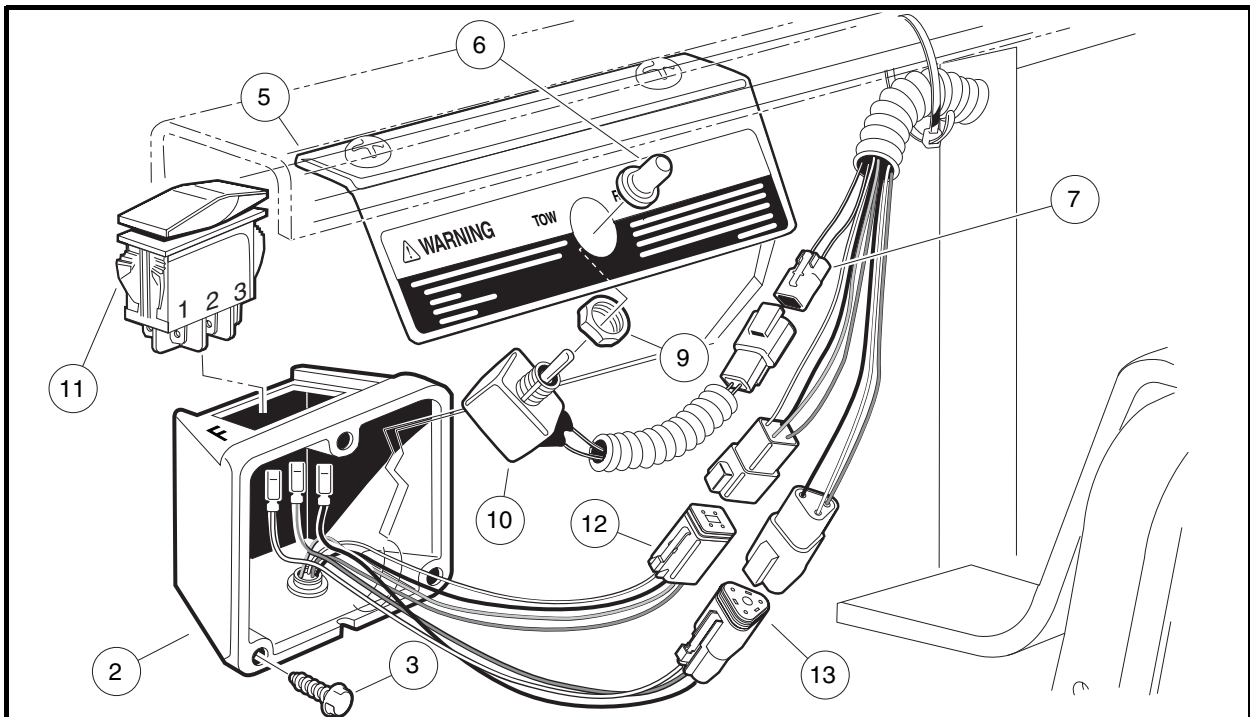
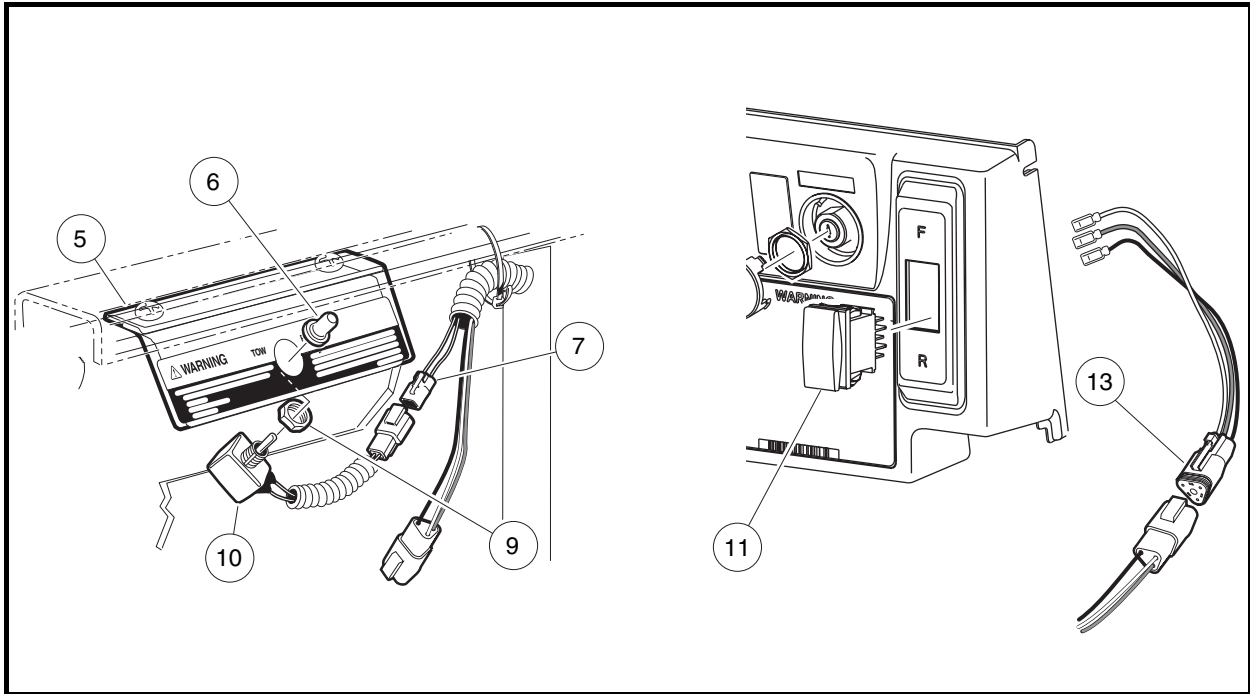

Figure 23-5 Tow/Run Switch and Forward/Reverse Rocker Switch – 800 and 810
Figure 23-6 Tow/Run Switch and Forward/Reverse Rocker Switch – 850
2. Remove three screws (3) that hold Forward/Reverse rocker switch housing (2) to body (**Figure 23-5, Page 23-5**).
4. Press the locking tabs (11) on each end of switch and push switch out of housing.
1. Press the locking tabs (11) on each end of the rocker switch and push switch into housing (2) (**Figure 23-5, Page 23-5**).
3. Install three screws (3) that hold Forward/Reverse rocker switch housing (2) to body. Tighten to 20 in-lb (2.3 N·m) (**Figure 23-5, Page 23-5**).
5. Press the locking tabs on each end of switch (11) and push switch out of dash panel (**Figure 23-6, Page 23-7**).
1. Press the locking tabs on each end of the rocker switch (11) and push switch into dash panel (**Figure 23-6, Page 23-7**).
2. Remove Tow/Run switch boot/hex nut (6) (Figure 23-5, Page 23-5 and Figure 23-6, Page 23-7).
3. Remove Tow/Run switch (10) and nut (9) from bracket (5).
4. Disconnect the two-pin connector (7) and remove switch.
1. Installation is reverse of removal. Make sure groove on switch is aligned with tang on bracket. Tighten Tow/Run switch boot/hex nut (6) to 16 in-lb (1.8 N-m) (Figure 23-5, Page 23-5 and Figure 23-6, Page 23-7).